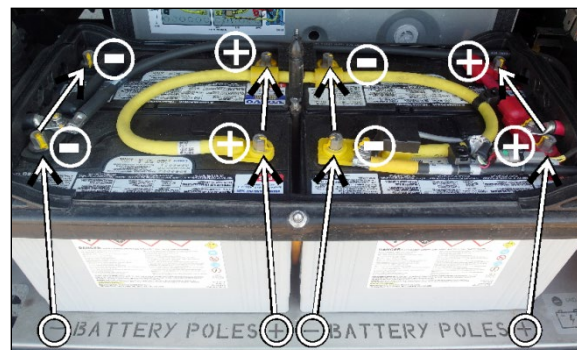

FIGURE 54: BATTERY BANK
1. To respect battery polarity in the arrangement, positive (+) and negative (-) signs are laser cut on the battery deck steel sheet. When installing the batteries, place the battery negative and positive poles according to the signs on the battery deck (Figure 54).